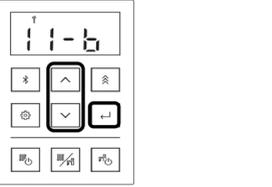

Fig 8. "Up," "Down" and "Select" Buttons
- Press the **▲** (Up) or **▼** (Down) arrows to change the selection for the setting number (such as i1-R or i1-b). Then, press the "Select" button (Fig 8).